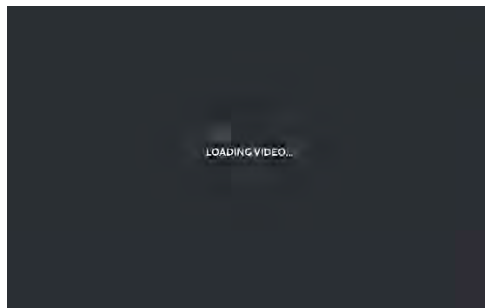

Fig. 1
1. Turn on the R3 VAC and note the 'LOADING VIDEO' screen on the LCD (Fig. 1).